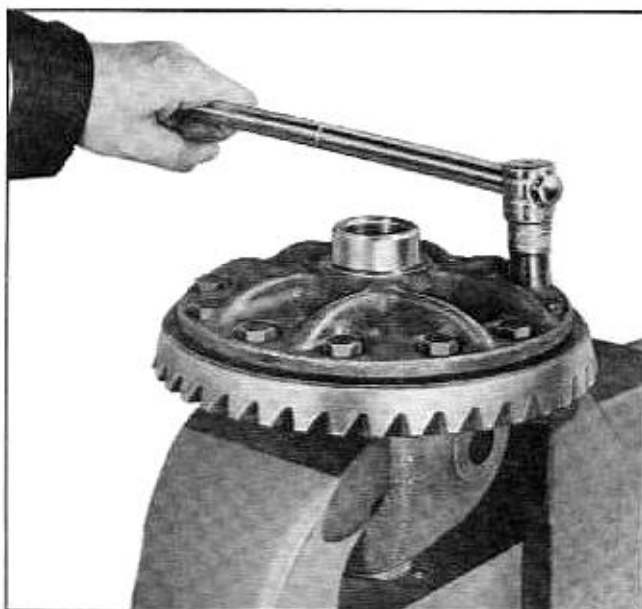

Fig. 4-43 Removing Ring Gear From Case
9. Remove ring gear. **NOTE:** If case is clamped in vise (Fig. 4-43), it should be positioned so jaws of vise are at 90° to pinion shaft holes.